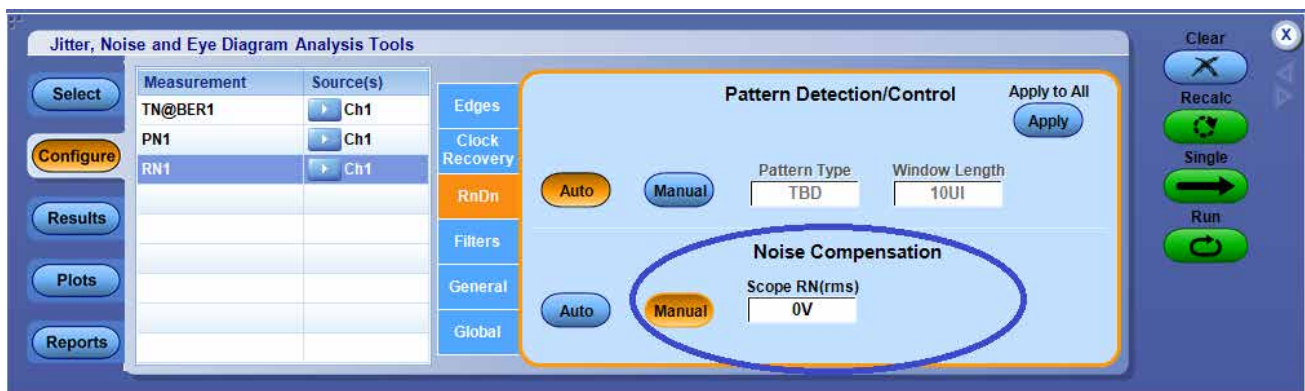
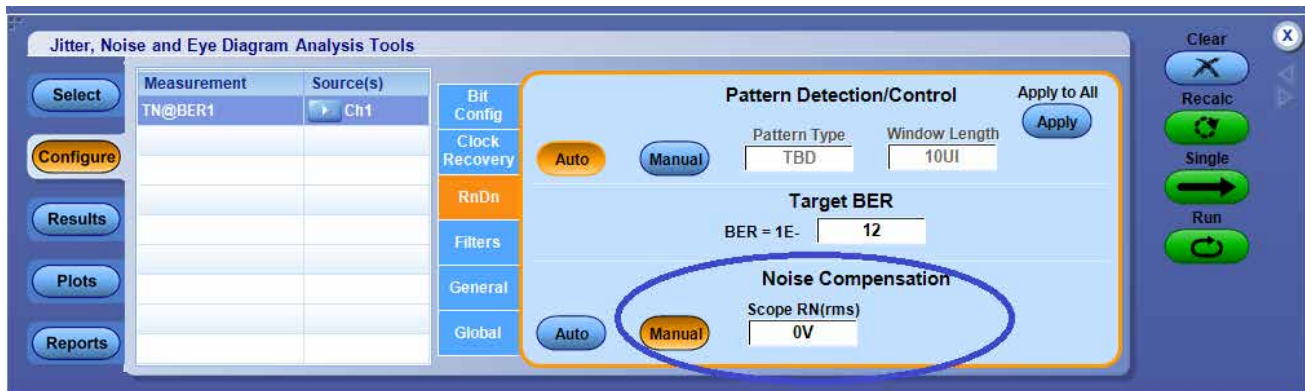

Figure 30: Noise Compensation for RN measurement in the configuration panel DPOJET
Figure 31: Noise Compensation for TN@BER measurement in the configuration panel DPOJET
7. Compensate the noted Scope RN value from **Scope Noise Characterization** application into Noise Compensation in **RnDn** and **TN@BER** configuration of DPOJET measurement. As shown in Figure 30 on page 29 and Figure 31 on page 29.